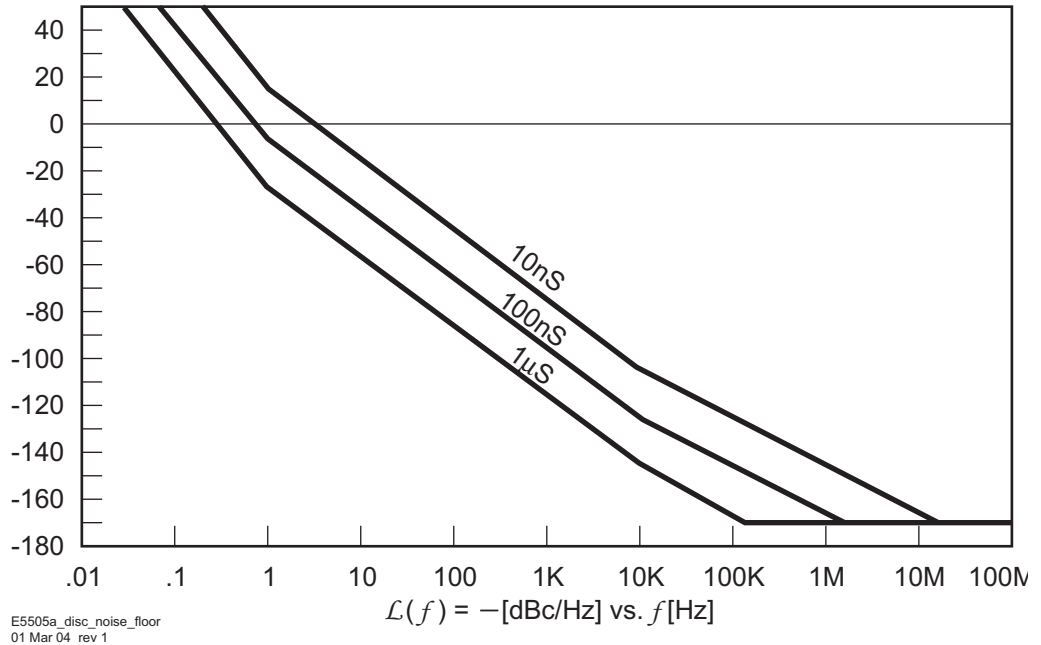

Figure 181 Discriminator noise floor as a function of delay time
- 1 Determine the delay necessary to provide a discriminator noise floor that is below the expected noise level of the DUT. Figure 181 on page 260 shows the noise floor of the discriminator for given delay times (τ).